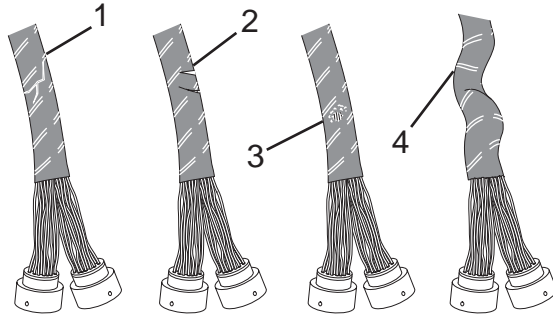

Figure 100
- Cracks (Figure 100, Item 1)
- Cuts (Figure 100, Item 2)
- Abrasion (Figure 100, Item 3)
- Twisting (Figure 100, Item 4)